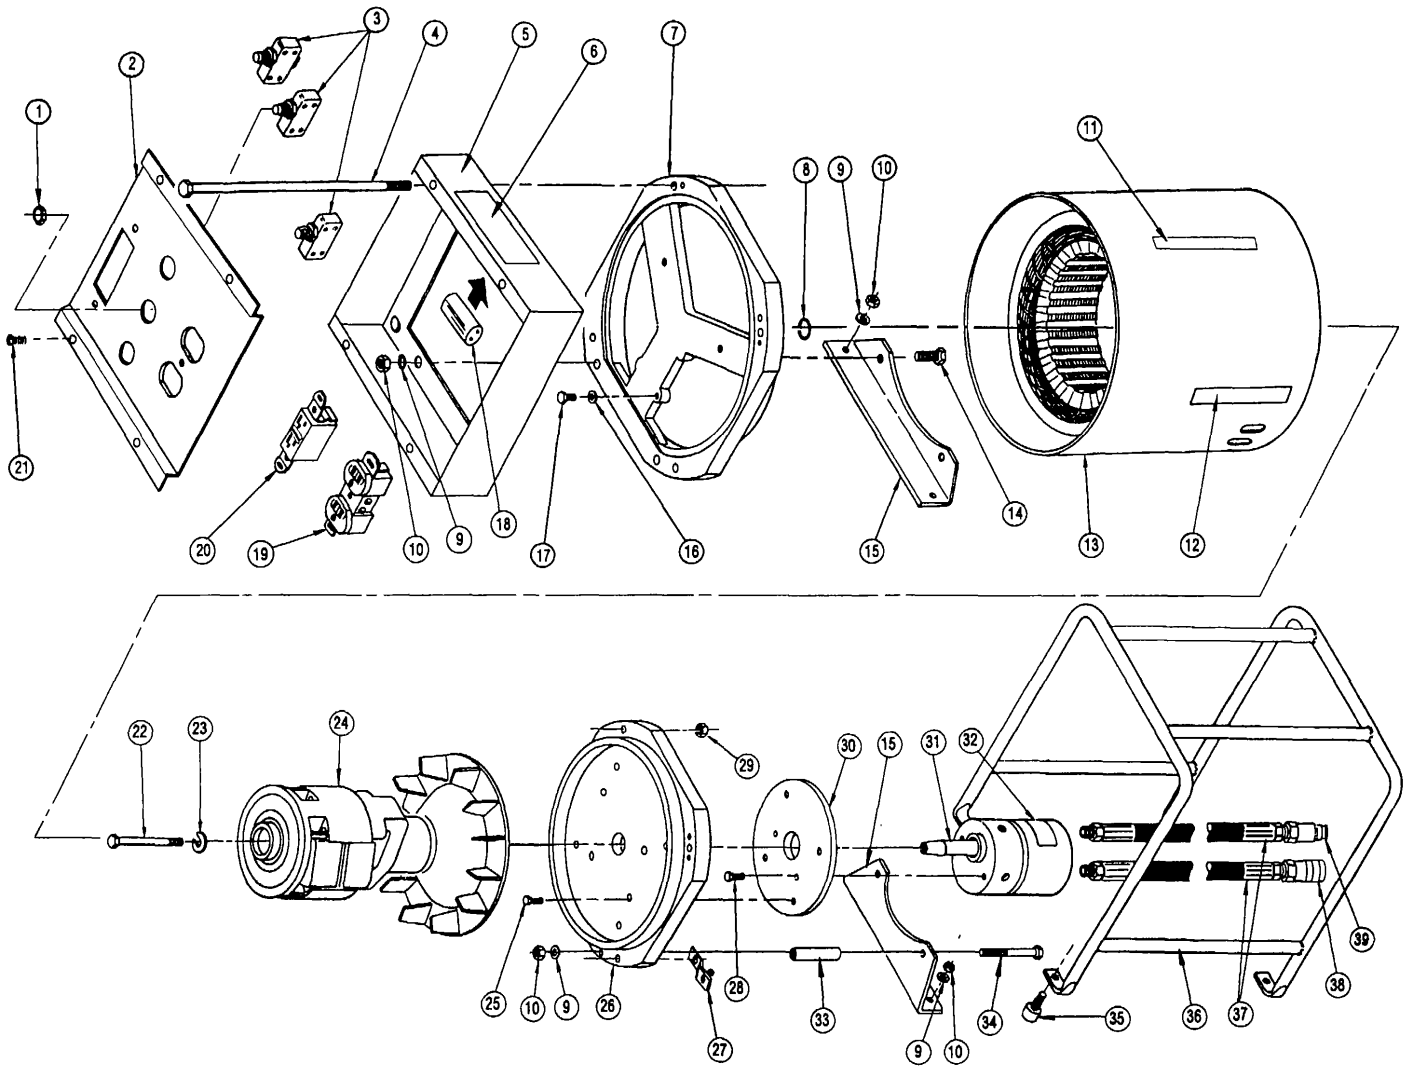

FIGURE 2. Hydraulic Motor Generator Assembly
1. Place the Hyrevz motor (31, figure 2) in a softjawed vise. Install the Hyrevz motor on the motor adapter plate (30) using the two 5/16-18 x 3/4 inch/i 19 mm long capscrews (28).
2. Secure the motor adapter plate (30) to the inboard engine end adapter (26) using the four 3/8-16 x 2 inch/51 mm long capscrews (25), 3. Perform steps 1 through 8 of the ROTOR REPLACEMENT procedure to complete the reassembly.
Loss of residual magnetism.	Flash the Field. 1. Stop the generator. 2. Remove the receptacle panel (2, figure 2). 3. Using a 12 volt automotive battery, touch the positive lead to the end of the diode set with the white or silver band located on the rotor assembly. At the same time touch the negative lead to the opposite end of the diode set. Hold the leads across the diode set for 2-4 seconds. NOTE: Do not reverse the polarity of the leads. This may cause damage to the diodes or the rotor or both. 3. Replace the receptacle panel and start the generator.